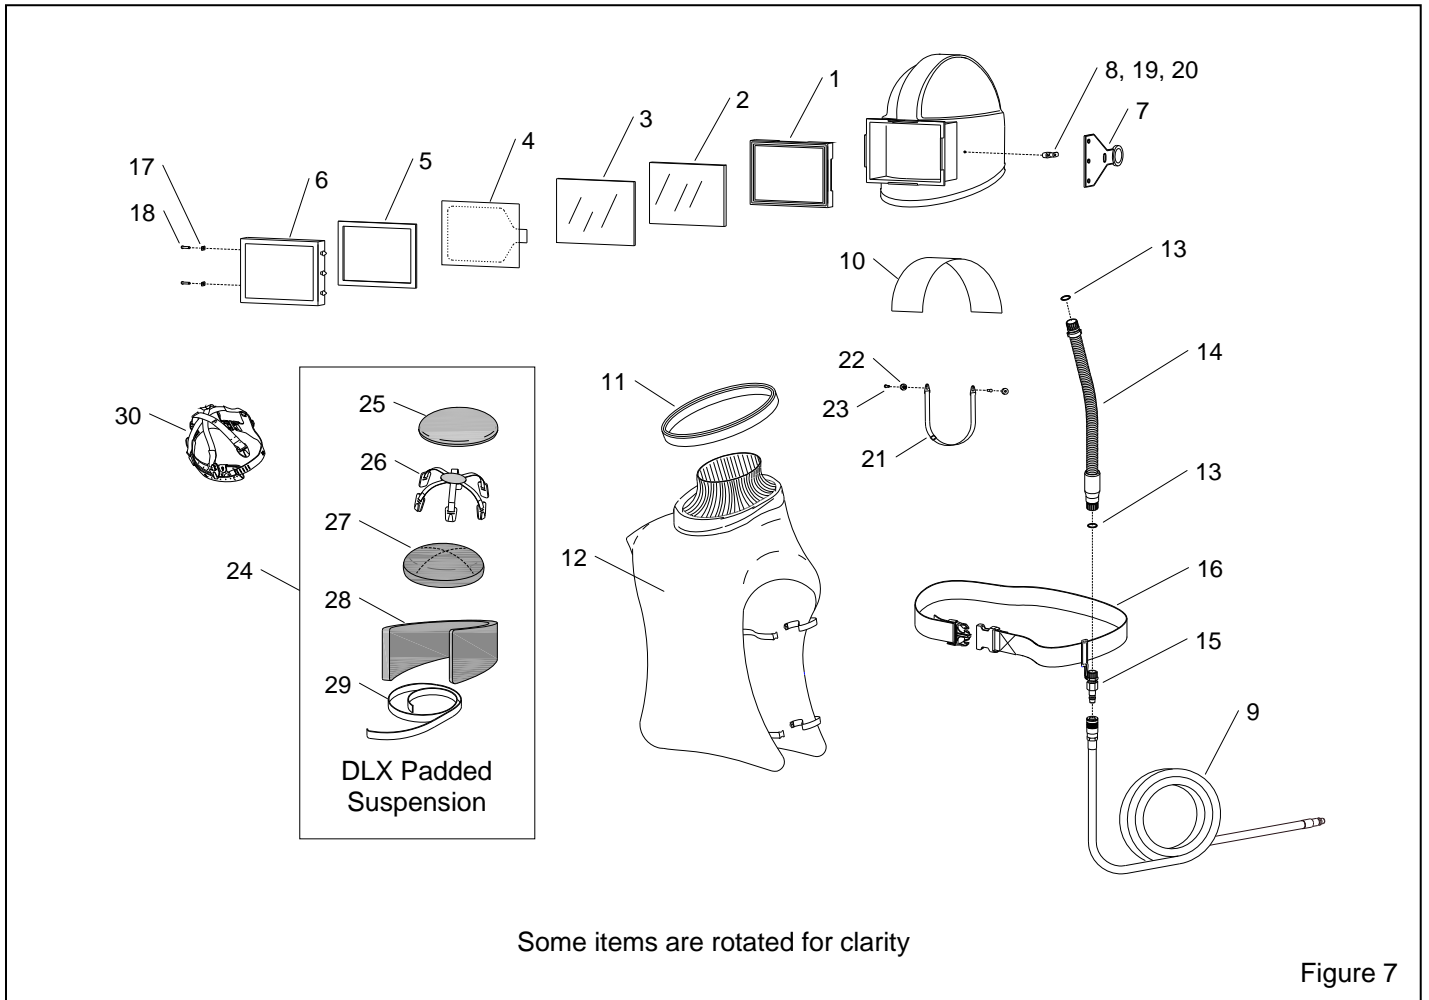

Figure 7
9.6.1.3 To remove the top pad, hold the air baffle partition (Figure 7, item 10) in place, and pull the pad to separate it from the partition.
10.2 Respirator Replacement Parts, Figure 7